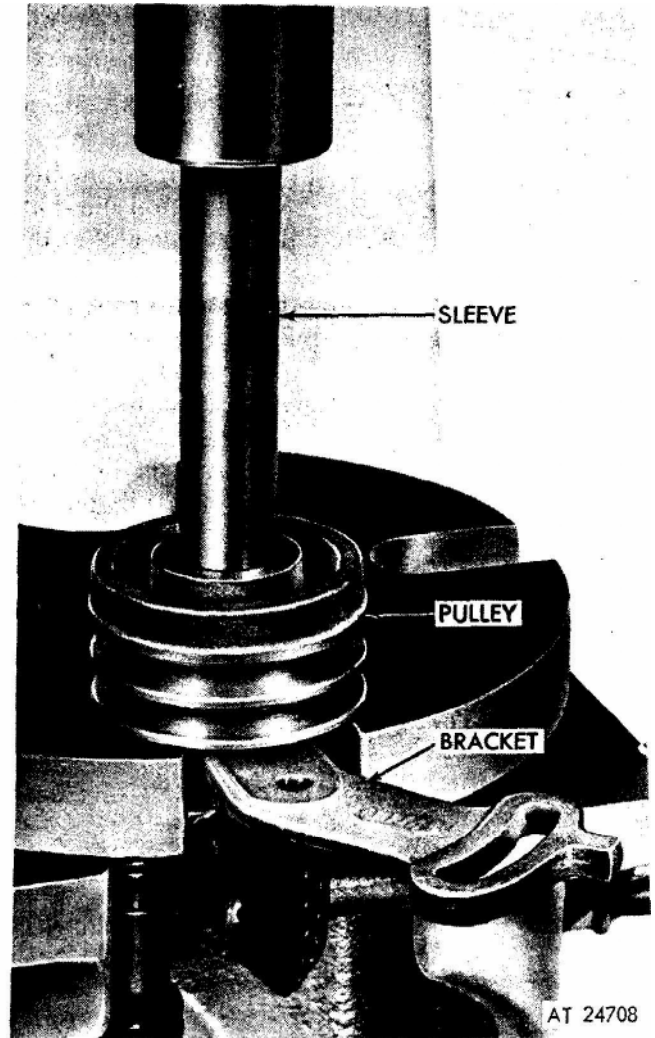

Figure 2. Removing shaft and bearing assembly and bracket from idler pulley.
1. Support the pulley, then press the shaft and bearing assembly and bracket from the pulley by applying pressure to the outer race of the bearing (fig. 2).